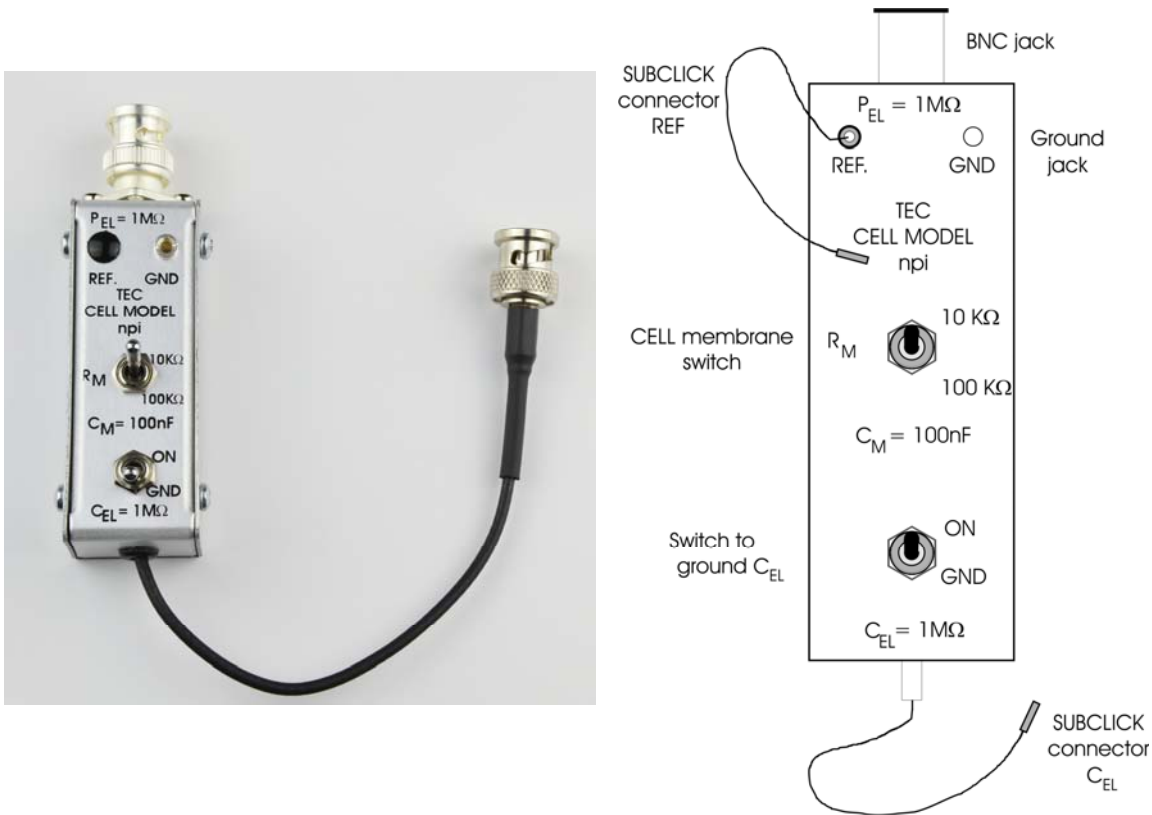

Figure 4: TEC passive cell model
- Switch the CELL membrane switch (see Figure 4) to the desired position.
- Set the GND switch (see Figure 4) to ON.